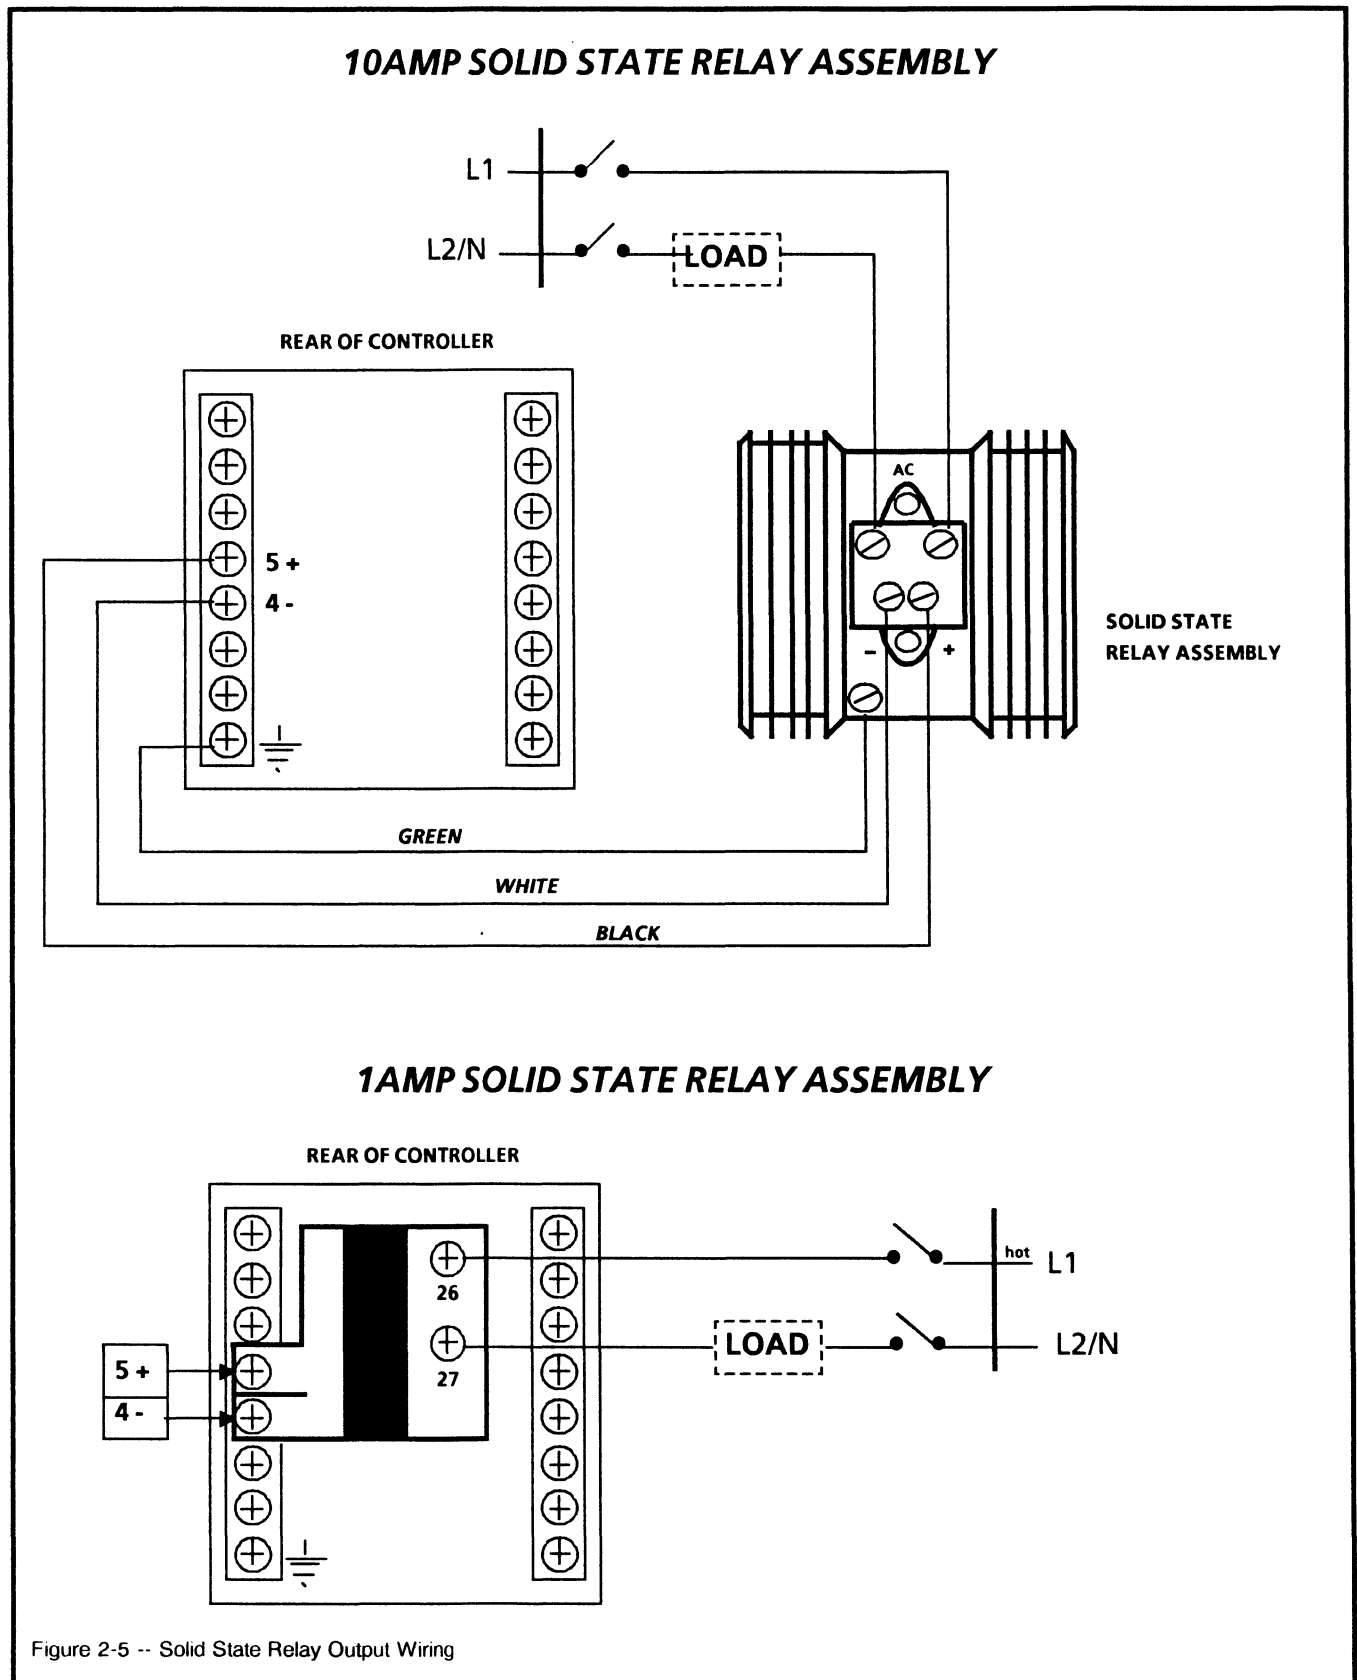

Figure 2-5 -- Solid State Relay Output Wiring
SOLID STATE RELAY OUTPUT Models DC2003, DC2004 with SSR Kits	FIGURE 2-5
- NOTE 2.** Control relays 1 and 2 are shipped having N.O. contacts configured. Alarm relays 1 and 2 are shipped with N.C. contacts configured. N.O. or N.C. contacts are selectable by means of a jumper on the main and option printed wiring boards. See "Preliminary Checks" in this section of the product manual for details. Each alarm is a SPST relay, rated at 5 amps at 120V, and 2.5 amps at 240 Vac. For solid state relay outputs, see Figure 2-5.
- NOTE 2.** Control relays 1 and 2 are shipped having N.O. contacts configured. Alarm relay 1 is shipped with N.C. contacts configured. N.O. or N.C. contacts are selectable by means of a jumper on the main and option printed wiring boards. See "Preliminary Checks" in this section of the product manual for details. Each alarm is a SPST relay, rated at 5 amps at 120V, and 2.5 amps at 240 Vac. For solid state relay outputs, see Figure 2-5.